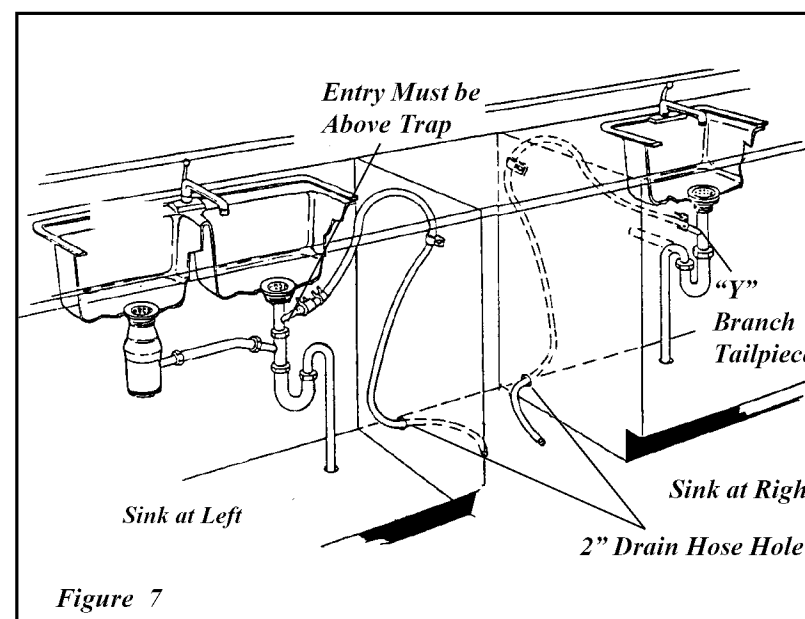

Figure 7
1. Review **Figures 7, 8 and 9** to see the different ways to connect dishwasher to drain system. Choose method that best suits your need.
2. If you connect to a sink drain, entry will need to be above trap. A "Y" branch tailpiece and connector kit, not included, will make this method easier and includes all needed fittings and instructions. **See Figure 7.**